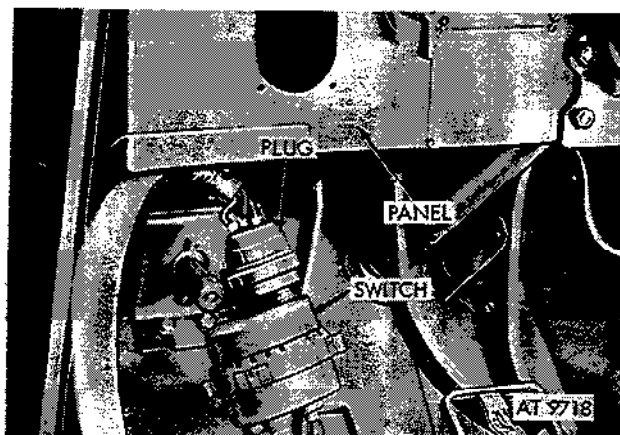

Figure 2-278. Remove light switch.
(3) Push light switch through dash panel and lower below dash panel (fig. 2-278).
(4) Unscrew cable plug nut and pull cable plug out of light switch (fig. 2-278).